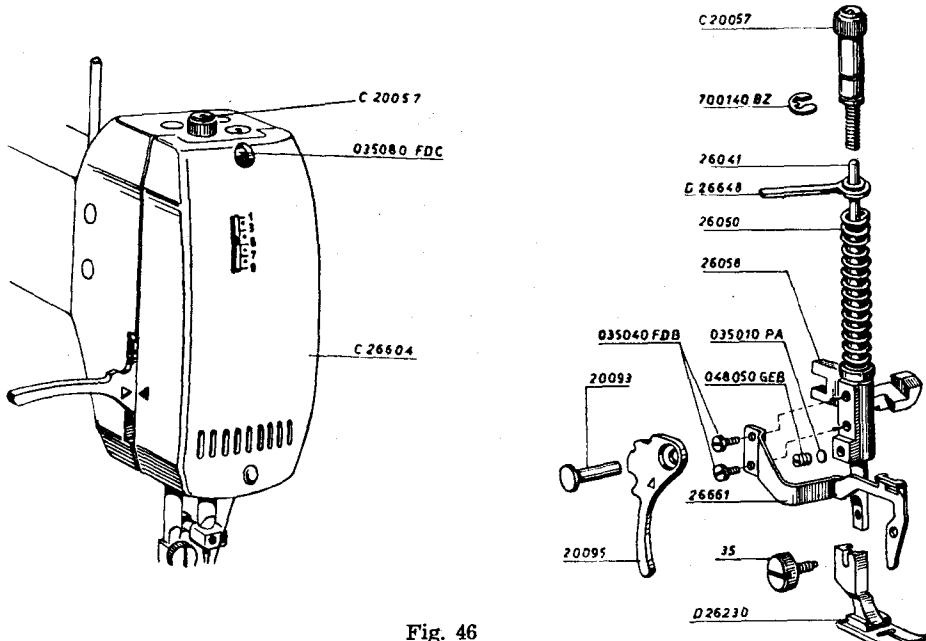

Fig. 46
The pressure is controlled with the aid of the pressure regulating thumb screw No. C 20057 (see Fig. 46).
- a. Loosen the presser bar screw No. 048050 GEB slightly in the presser bar guide No. 26058 (see Fig. 46).
The presser bar lever No. 20095 (see Fig. 46) permits three different positions of the presser foot:
### ***2. The presser bar lever is partially raised* (see Fig. 46).**